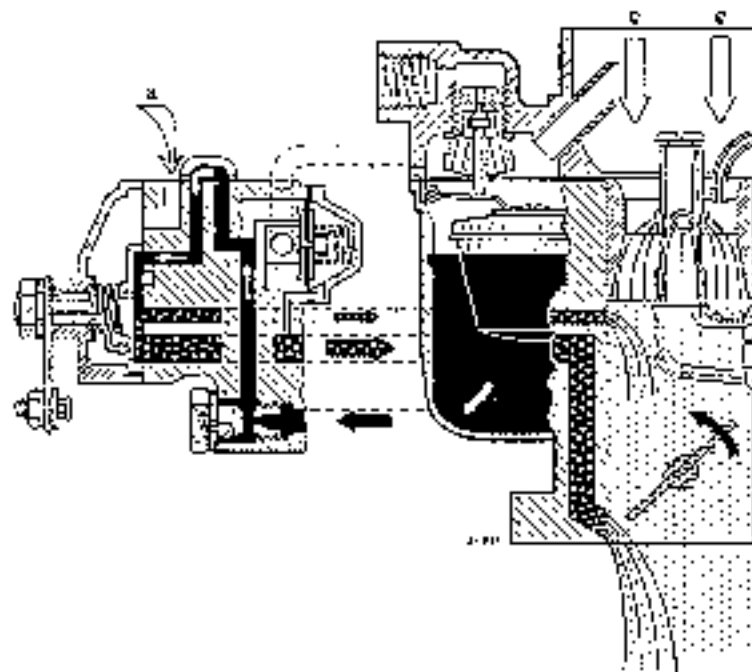

Fig. 07-06
If as a result of quick acceleration from low engine speed the throttle valve is opened still further, the partial vacuum suddenly drops. The starter air valve (6) which had opened immediately the engine started now closes again so that the starter system produces a rich start mixture for the change-over just as it did at starting. As soon as the engine reaches sufficient speed, the starter air valve, actuated by the partial vacuum which is increasing again, once more opens and leans out the start mixture. By this automatic action of the starter air valve the cold engine is supplied with a correctly proportioned start mixture suitable for all conditions and a satisfactory change-over to the main carburettor system is ensured when the starter knob is pulled. Fig. 07-06 shows the mode of action of the starter mechanism when the car is being driven away.